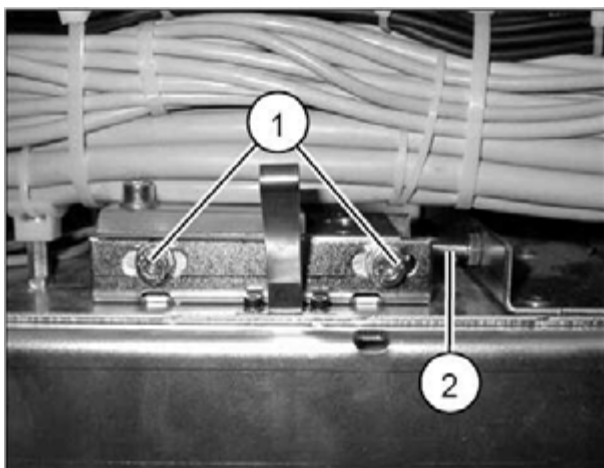
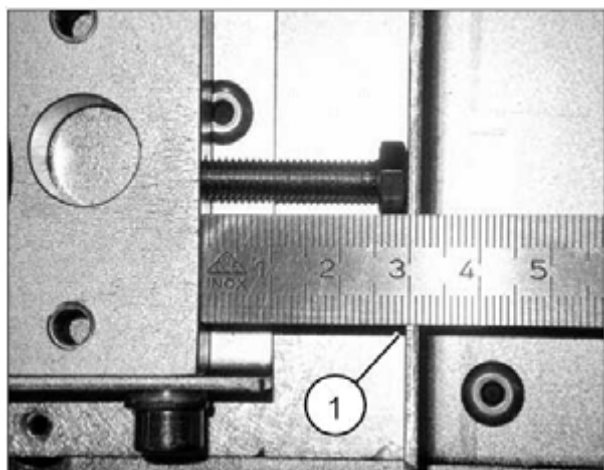

Fig. 13: Screws
Fig. 14: Reference value
- To readjust, loosen the 4 fastening screws (1/Fig. 13 / p. 48) (two screws are not visible) and adjust with the adjustment screw ((2/Fig. 13 / p. 48)); reference value for adjustment: 30 mm ((1/Fig. 14 / p. 48)).
- Retighten the 4 mounting screws (1/Fig. 13 / p. 48).